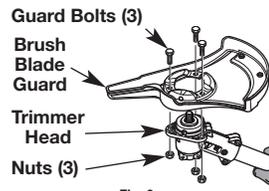

Fig. 6
2. Attach the blade guard to the trimmer head with the three guard bolts and nuts using a 7/16 inch closed-end or socket wrench (Fig. 6).
1. Loosen and remove the three guard bolts and nuts using a 7/16 inch closed-end or socket wrench (Fig. 6). Store with brush cutter blade for future use.